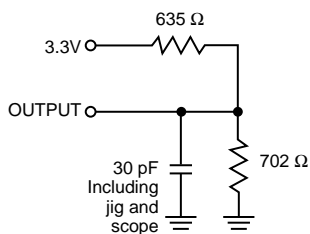

Figure 1a.
1. Test conditions assume signal transition times of 3 ns or less, timing reference levels of 1.5V, input pulse levels of 0 to 3.0V and output loading specified in Figure 1a.
Output Load	See Figures 1a and 1b
1. Test conditions assume signal transition times of 3ns or less, timing reference levels of 1.5V, input pulse levels of 0 to 3.0V and output loading specified in Figure 1a.